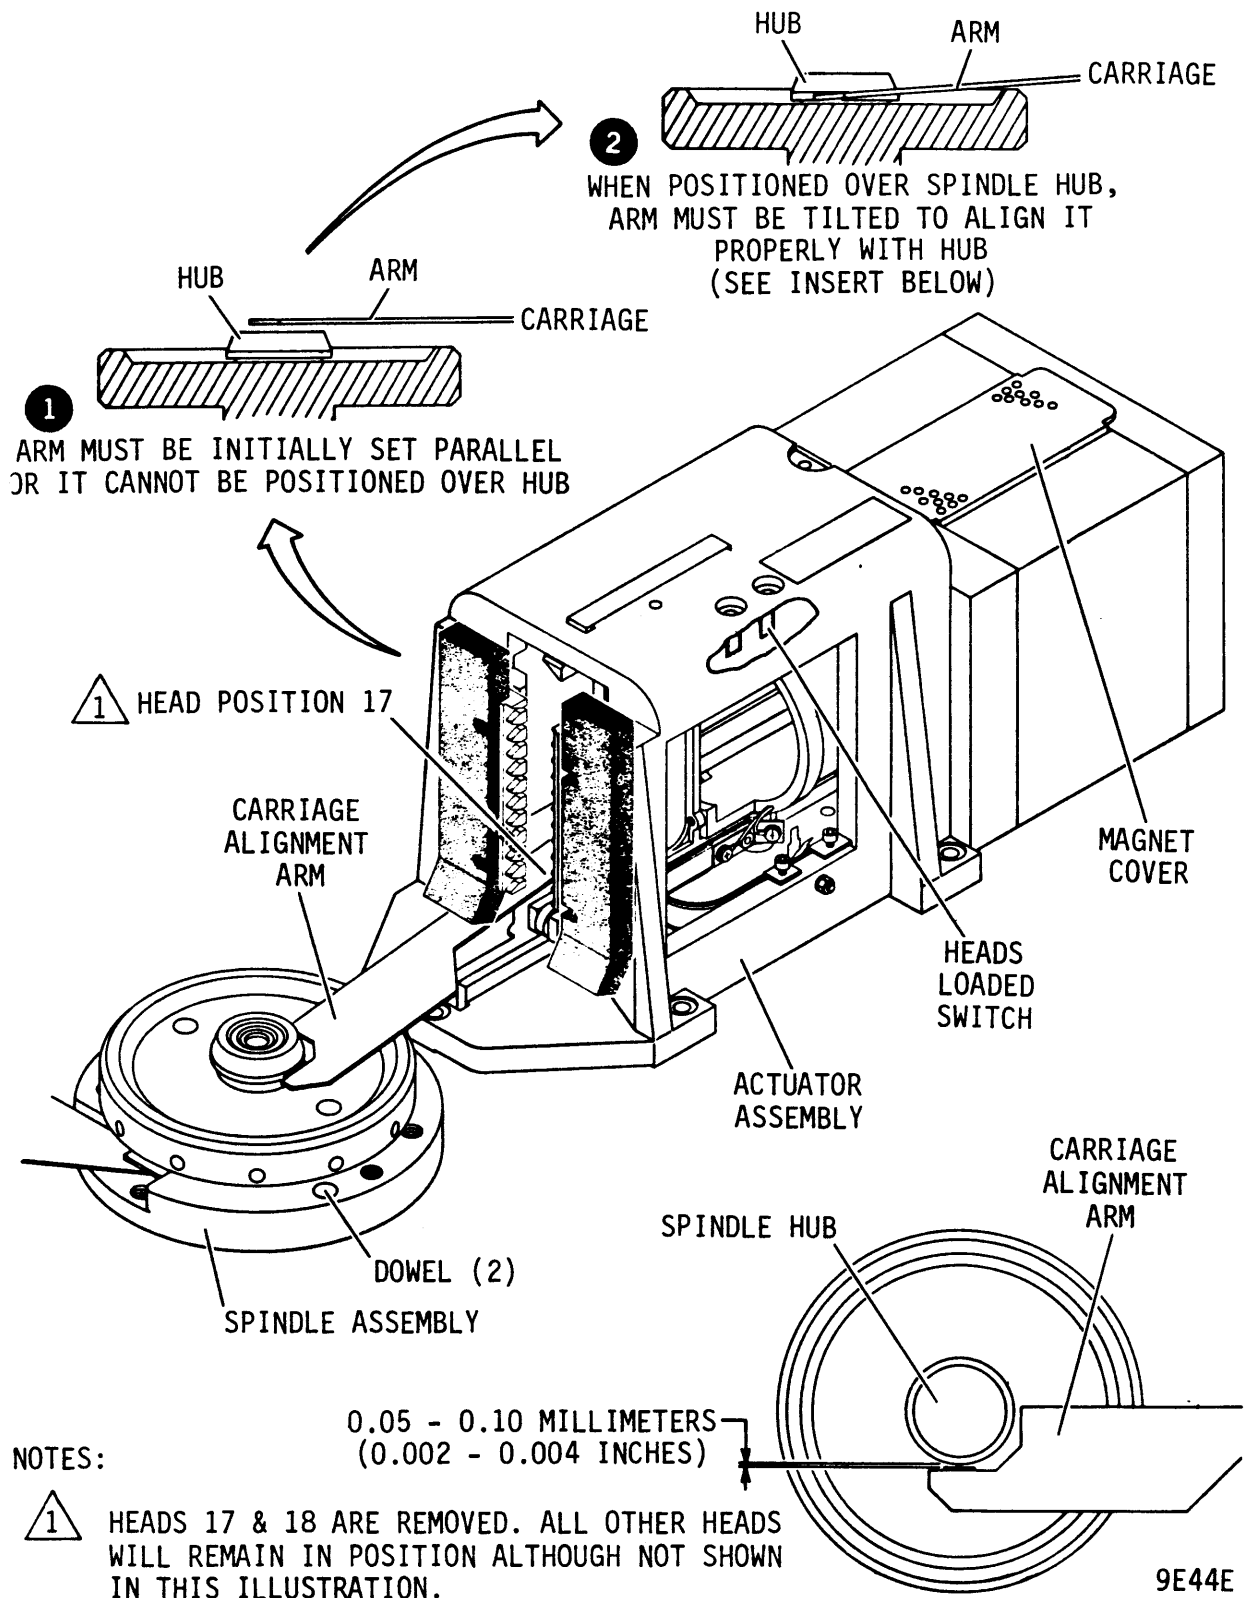

Figure 6-4. Spindle-to-Carriage Alignment
- b. Check to see that clearance between carriage alignment arm and spindle hub is between 0.05 and 0.10 mm (0.002 and 0.004 in) (refer to figure 6-4).